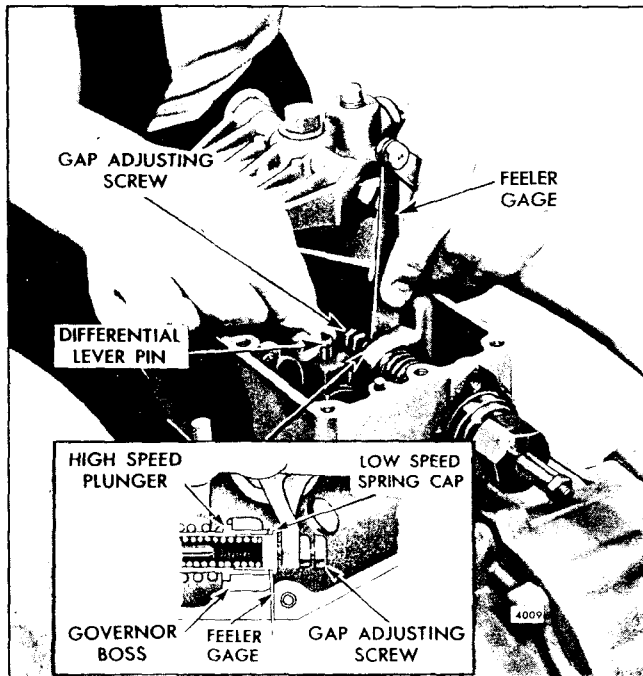

Fig. 2 - Adjusting Governor Gap
5. Start and run the engine between 900 and 1050 rpm by manual operation of the differential lever as shown in Fig. 2. This gap setting range is required because of the lighter high-speed weights and heavier high-speed weights.
6. With the engine operating between 900 and 1050 rpm, set the gap between the low-speed spring cap and the high-speed spring plunger (Fig. 2) at .0015" by adjusting the gap adjusting screw in the operating shaft lever. If the setting is correct, the .0015" movement can be seen by placing a drop of oil into